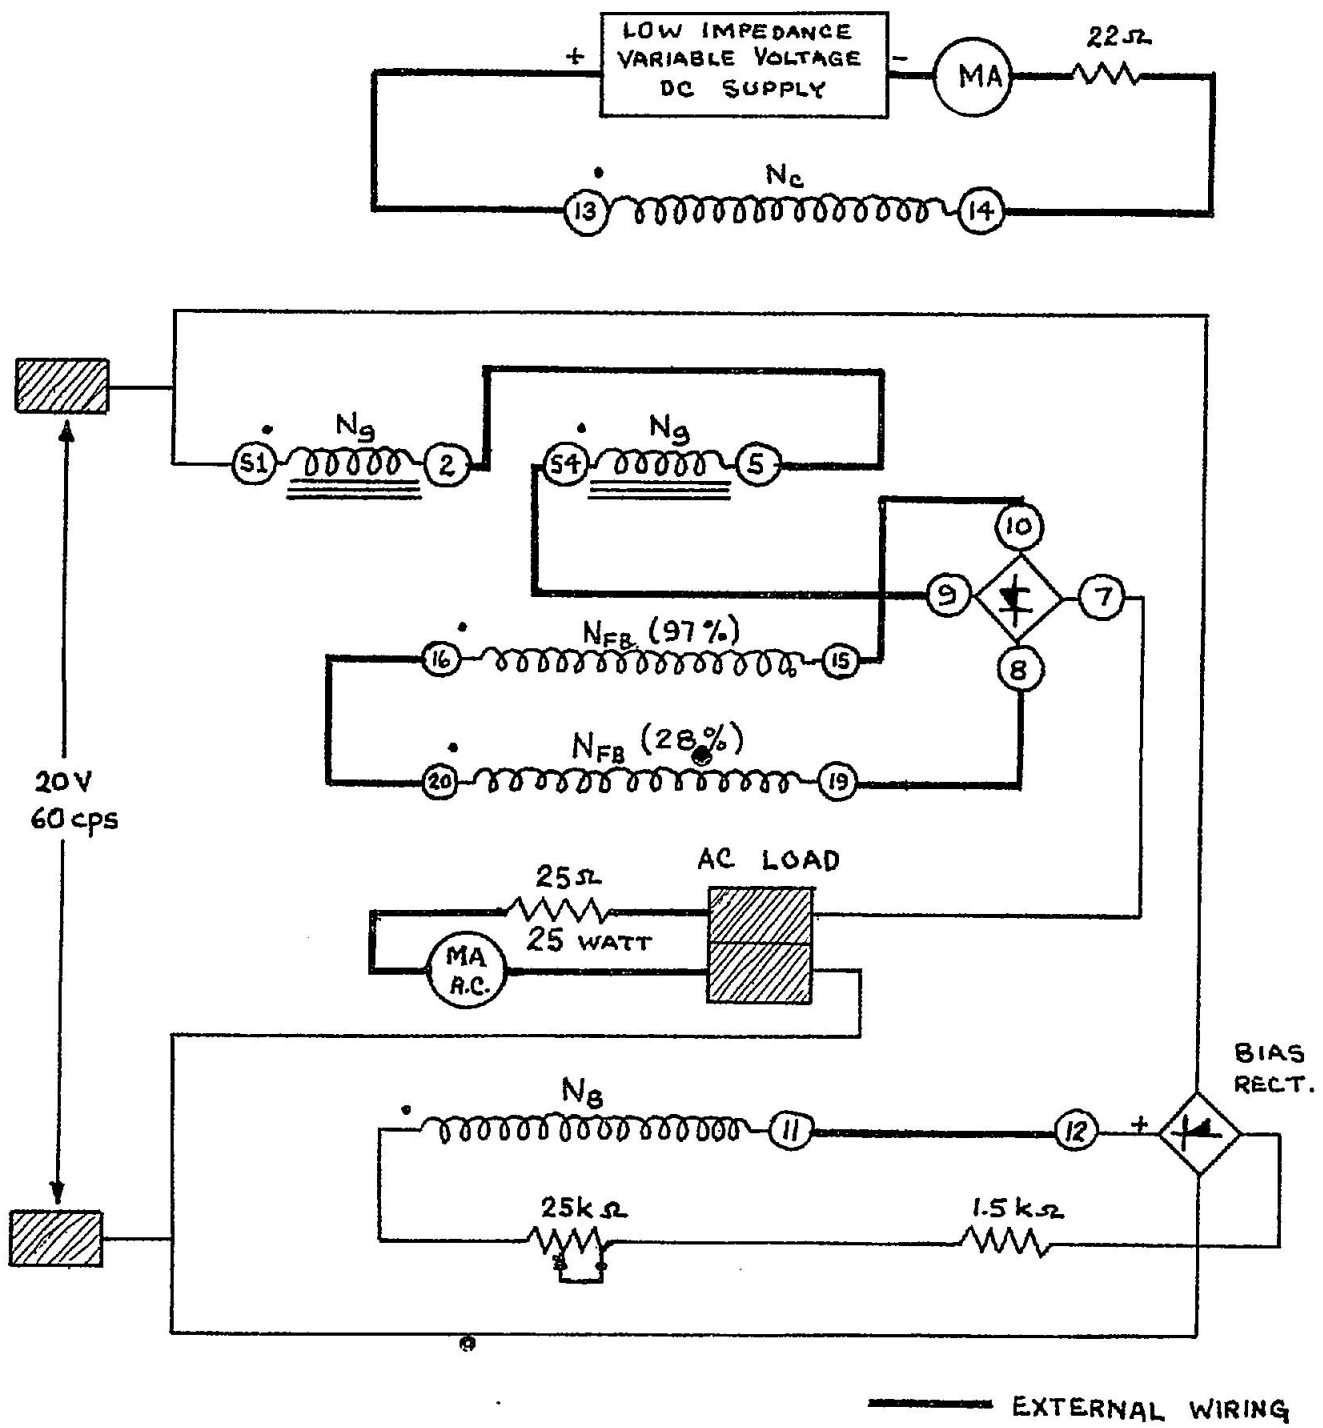

Figure 5
Figure 5 shows a magnetic amplifier with 69% of positive feedback. The amount of feedback can be varied by choosing different feedback windings. The feedback windings are wound in the same fashion as the control windings, that is, the windings are common to both reactor cores. The load current is routed through them.
1. Connect the unit as shown in figure 5 and supply with 20 V AC.